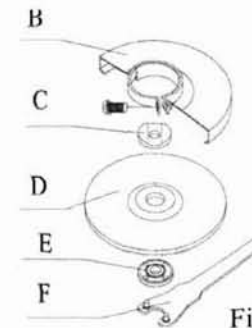

Figure 2
- 4) Mount the concave recess side of the locking nut E over the spindle (figure 2).